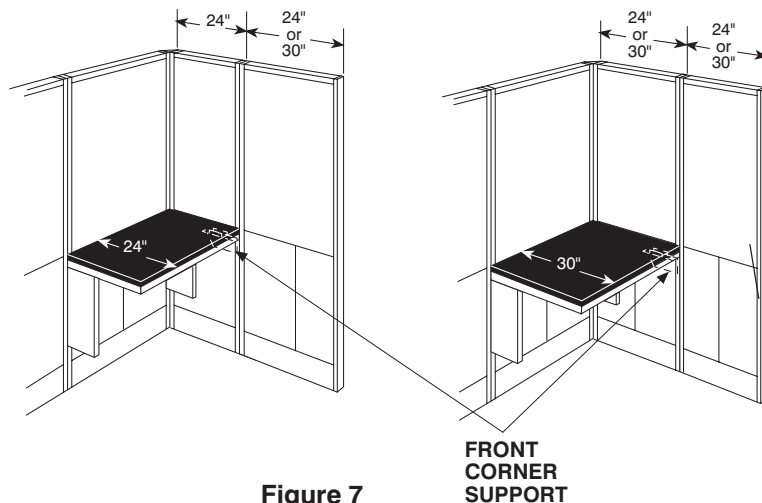

Figure 7
15. The addition of a second 24 or 30" wide island panel to an existing end island panel is permissible only when the first island panel is attached to the work surface with a front corner support. See Figure 7.